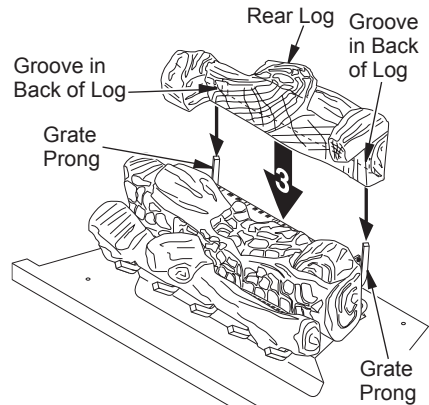

Figure 22 - Installing Rear Log
3. Slide the grooves in the back of the rear log against the rear grate prongs. Make sure the log fits securely over the prongs (see Figure 22). Make sure log is completely vertical and not leaning in toward burner where the flame will touch the log.